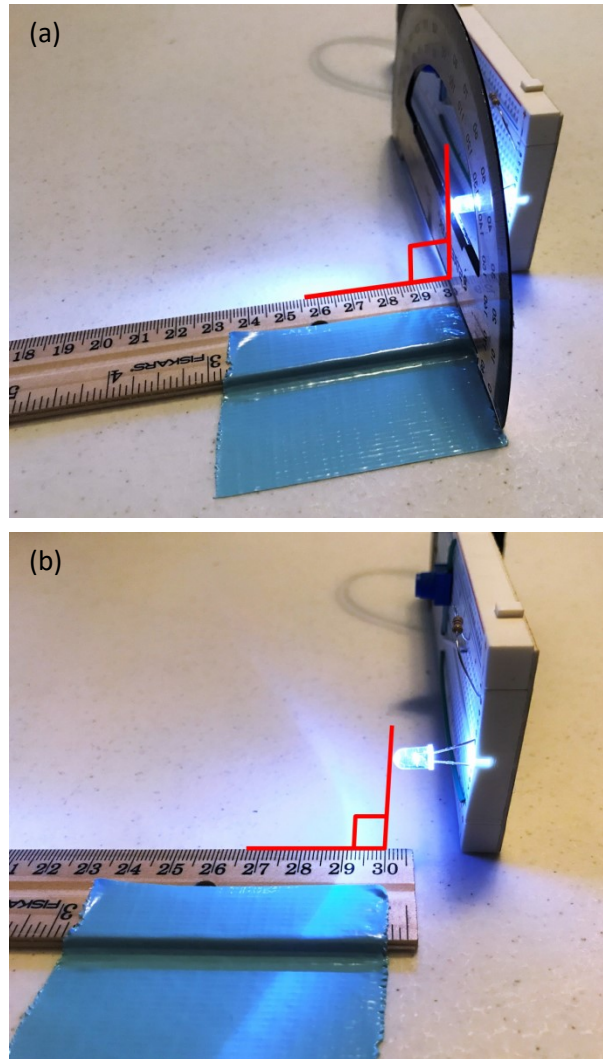

Fig. 7: (a) Protractor (or other straight edge) is used to align the source LED at the 30 mark. (b) LED aligned at 30 cm and shining at the detector LED.
2. Connect the battery, twist the potentiometer knob to turn on the LED light source, and point it directly at the detector LED. Then use a protractor or some kind of straight edge to align the front of the LED at the 30 cm mark of the ruler (see Fig. 7).